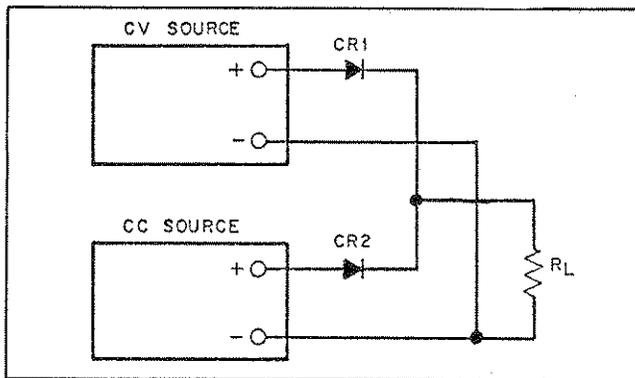

Figure 3-2 Paralleling Two Supplies
currents from each individual supply. Since the inputs to the supplies' error amplifiers are not available, the two supplies must be connected in straight parallel with one supply operating as a constant current (CC) source. To protect the supplies' input voltage amplifiers, diodes CR1 and CR2 are added between the + output terminals and the load as shown in Figure 3-2. If the diodes are not added, damage may occur when one supply is turned off with the voltage controls set for zero volts or to some low value.
- With both supplies turned off, connect the load and the protection diodes as shown in Figure 3-2.